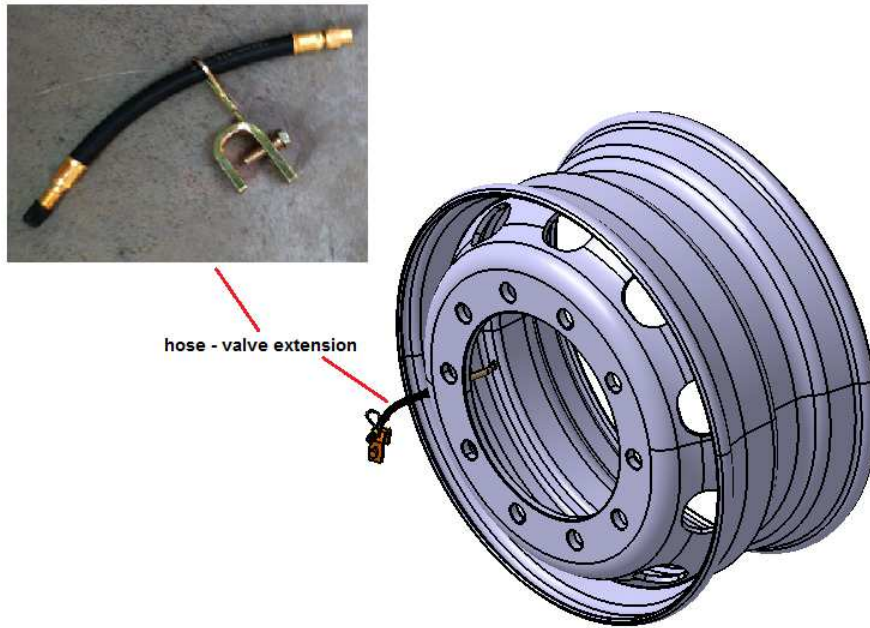

Figure-5
* Remove the hose - valve extension from the inner rim shown in Figure-5.